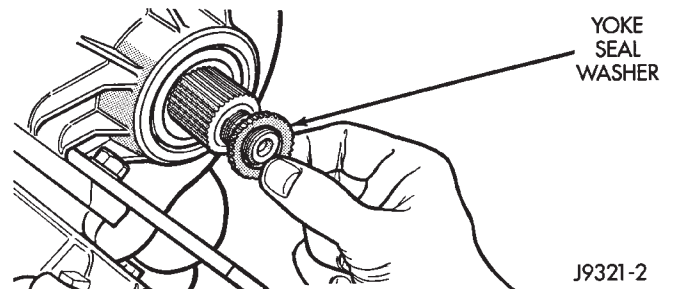

Fig. 70 Flange Seal Washer Installation
- (2) Install new seal washer on front output shaft (Fig. 70).
- (3) Lubricate flange hub with transmission fluid and install flange on front shaft.
- (4) Install new seal washer on front shaft.
- (5) Install companion flange and new nut on front output shaft.
- (6) Tighten flange nut to 122-176 N-m (90-130 ft. lbs.) torque. Use Tool C-3281, or similar tool to hold flange while tightening yoke nut.